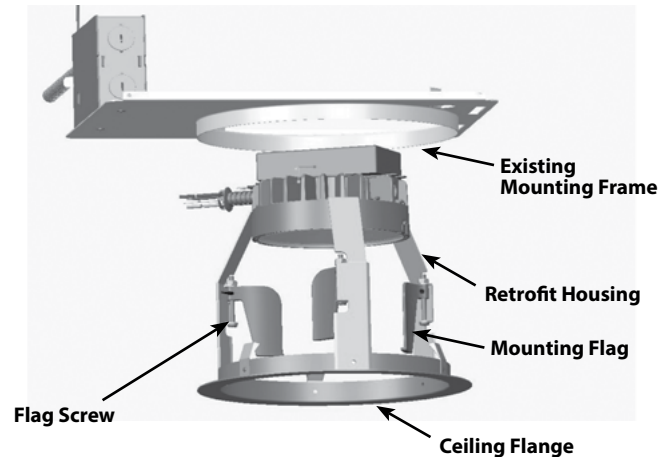

Fig.3.
1. Push up and slide the **Retrofit Housing** section into the ceiling as shown in **Fig. 3**. Be sure the **Mounting Flag (3)** is folded in as the fixture slides through ceiling hole.